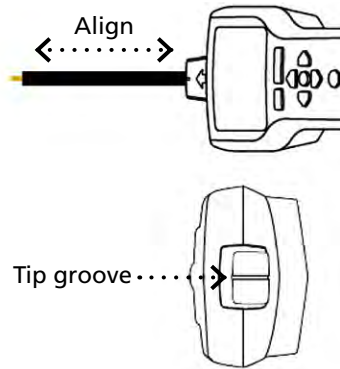

Figure 3.1h:
5. Receiver Positioning: For best results, align groove on Tip Sensor with wire direction. Signal may be lost if not properly aligned (Figure 3.1h).